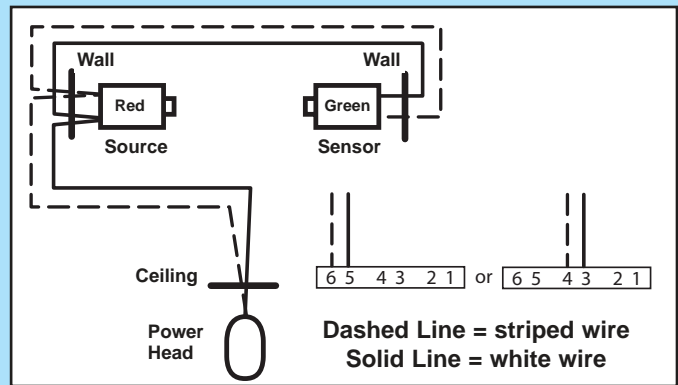

FIG. 4-5b Pre-Wired source and sensor wiring methods.
- Route wire from wall to Safe-T-Beam® sensors (Fig. 4-5b).
- Route wire from ceiling to power head (Fig. 4-5b).
- Insert wire into terminal holes and lightly press in the orange locking clips above each terminal hole. (You can use a pencil or small screwdriver to comfortably reach in and lightly press down locking clips.) Insert white wires to 'even' numbered terminal holes and striped wires into 'odd' terminal holes (Fig. 4-5b).